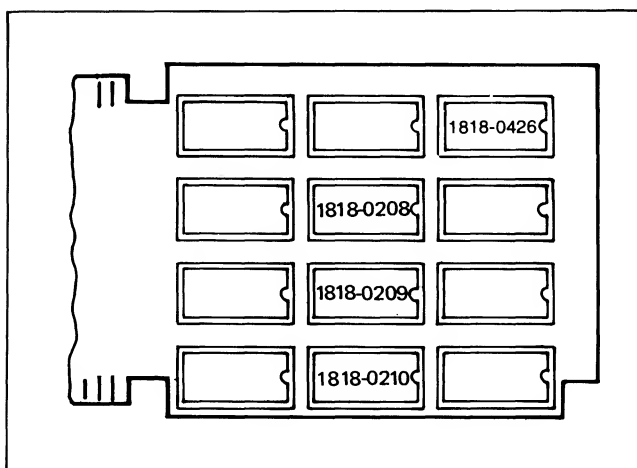

Figure 7-15. 13261A Device Support Firmware IC Locations on Control Memory PCA
8. ( ) Carefully insert the appropriate ROM contained in accessory package into ROM socket 10 through 16 that ROM pin 1 is at upper right corner of each socket (see figure 7-15).